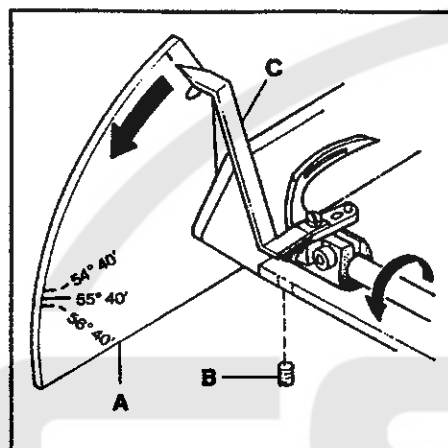

FIG. 6
Attach looper travel gauge plate (A, Fig. 6) to the rear of the cylinder arm. Set the bottom of the gauge so it is approximately horizontal and lock lightly in place with screw (B) directly underneath. Attach looper travel gauge pointer (C) to the looper using the left needle guard screw hole. Turn the handwheel in operating direction until the looper is positioned to the far right. Set pointer (C) at zero degrees by rotating gauge plate (A) and lock in place. Continue turning the handwheel until the pointer stops. If the looper travel is correct the pointer should indicate  $55^{\circ}40'$  or within one graduation mark on either side.